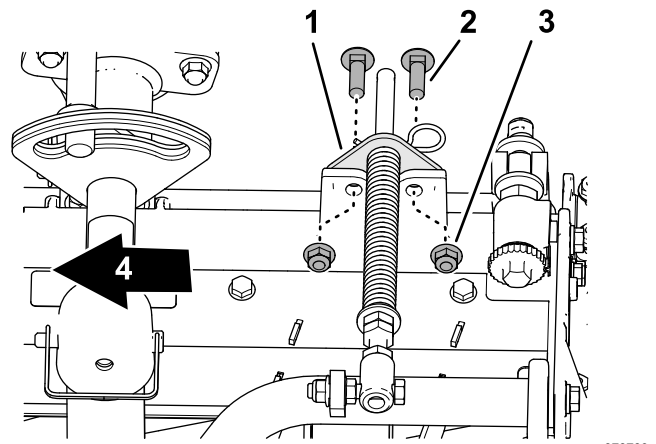

**Figure 19**
4. Assemble the capscREW of the turf compensation spring to the right tab of the carrier frame (Figure 19) with the flange locknut (3/8 inch).